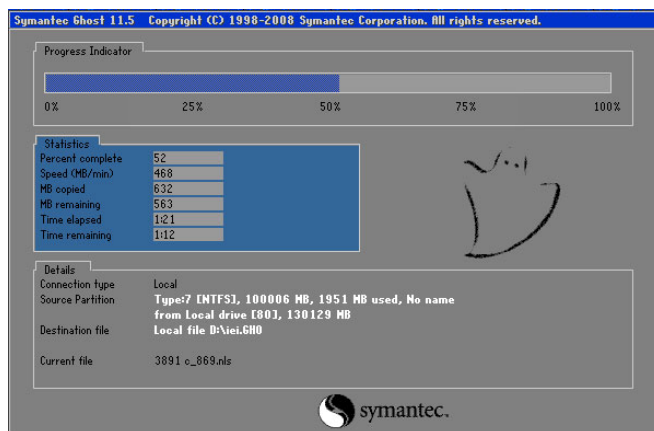

Figure C-19: Image Creation Complete
Step 10: The Symantec Ghost starts to create the factory default image (Figure C-19).